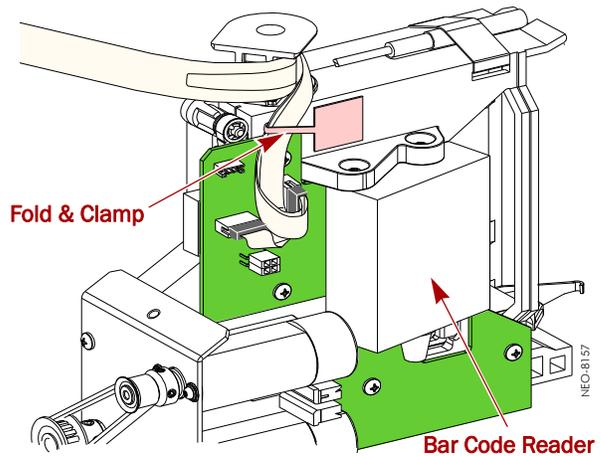

Figure 15. Connecting the Cable to the Shuttle PWA
4. Bend the **clamp** around both cables (Figure 15 & Figure 21):